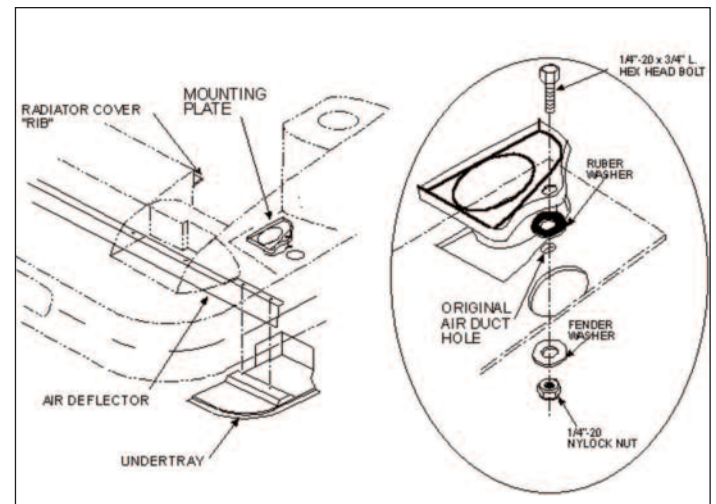
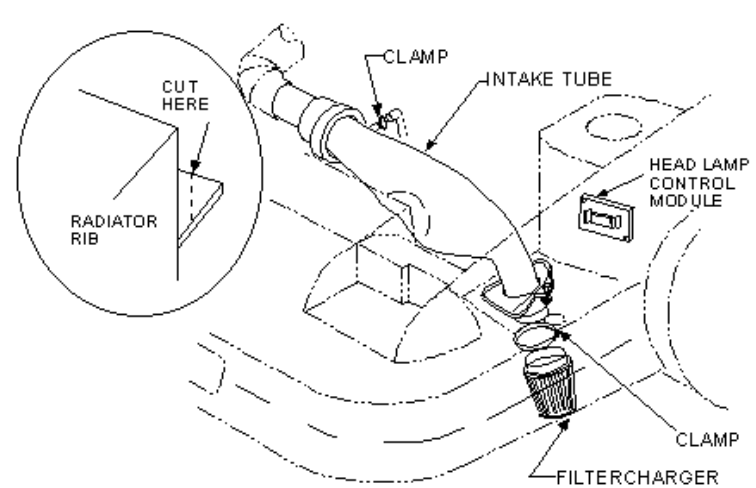

fig. 1
fig. 3
- 7) The K&N Air filter will be installed from underneath the vehicle which requires the removal of the plastic undertray. Before doing so you must first remove the five far left bolts of the air deflector. Now remove the undertray which is secured by seven remaining screws (as shown in fig. 1). **NOTE: If you have a vehicle that is lowered it may be necessary to raise the car. Be sure to use jack stands and chock the rear wheels to secure the vehicle.**
- 8) Place the mounting plate into the lower bulkhead (as shown in fig. 1). Make sure that it is properly seated, then from below the vehicle, mark the mounting plate using the original air duct hole as your guide.
- 9) Remove the mounting plate and drill a 1/4" hole. Now re-position the plate and secure it using the provided hardware. (as shown in fig. 1)
- 11) Now slide the intake tube assembly into place (as shown in fig. 3). **NOTE: Some vehicles have a "Rib" on the radiator cover (as shown in fig. 1&3). This "rib" will need to be trimmed to give sufficient clearance, then file any sharp edges.**
- 12) Trans Am & Firebird models - Once the intake tube is properly positioned, test fit the head lamp control module on the inner fenderwell (as shown in fig. 3). Then remove the intake assembly, and attach the double sided adhesive patch to the back of the head lamp control module and attach it to a suitable place on the inner fenderwell, then reconnect the module wires.
- 14) From below the car, attach the K&N Air filter onto the intake tube which has been slid through the mounting plate. Tighten the Air filter hose clamp (as shown in fig. 3).